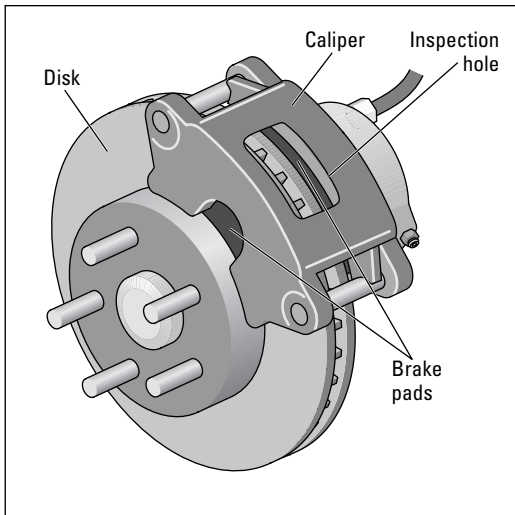

Figure 15-6: A disc brake.
You should check disc brakes (see Figure 15-6) and disc brake linings every 10,000 miles — more often if your brakes suddenly start to squeal or pull to one side, or if your brake pedal flutters when you step on it. Don't confuse the fluttering with the normal pulsing of **ABS** brakes when they're applied in an emergency stop.
4. Peek through the inspection hole in the dust shield on the caliper and look at the brake pads inside (refer to Figure 15-6).